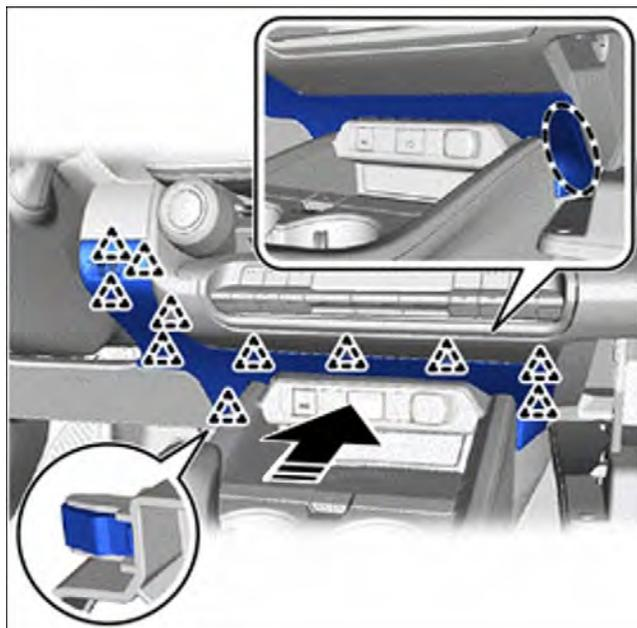

Figure 63
- (b) Attach 11 clips and install the lower center instrument panel finish panel, as shown in Figure 63.